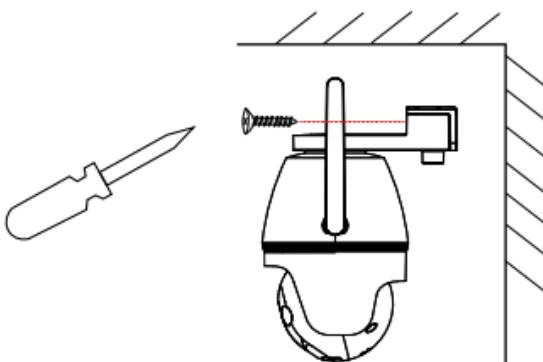

Figure 2-10 Securing the camera
4. Secure camera. Use a screwdriver and screws to secure the camera to the wall, as shown in Figure 2-10.